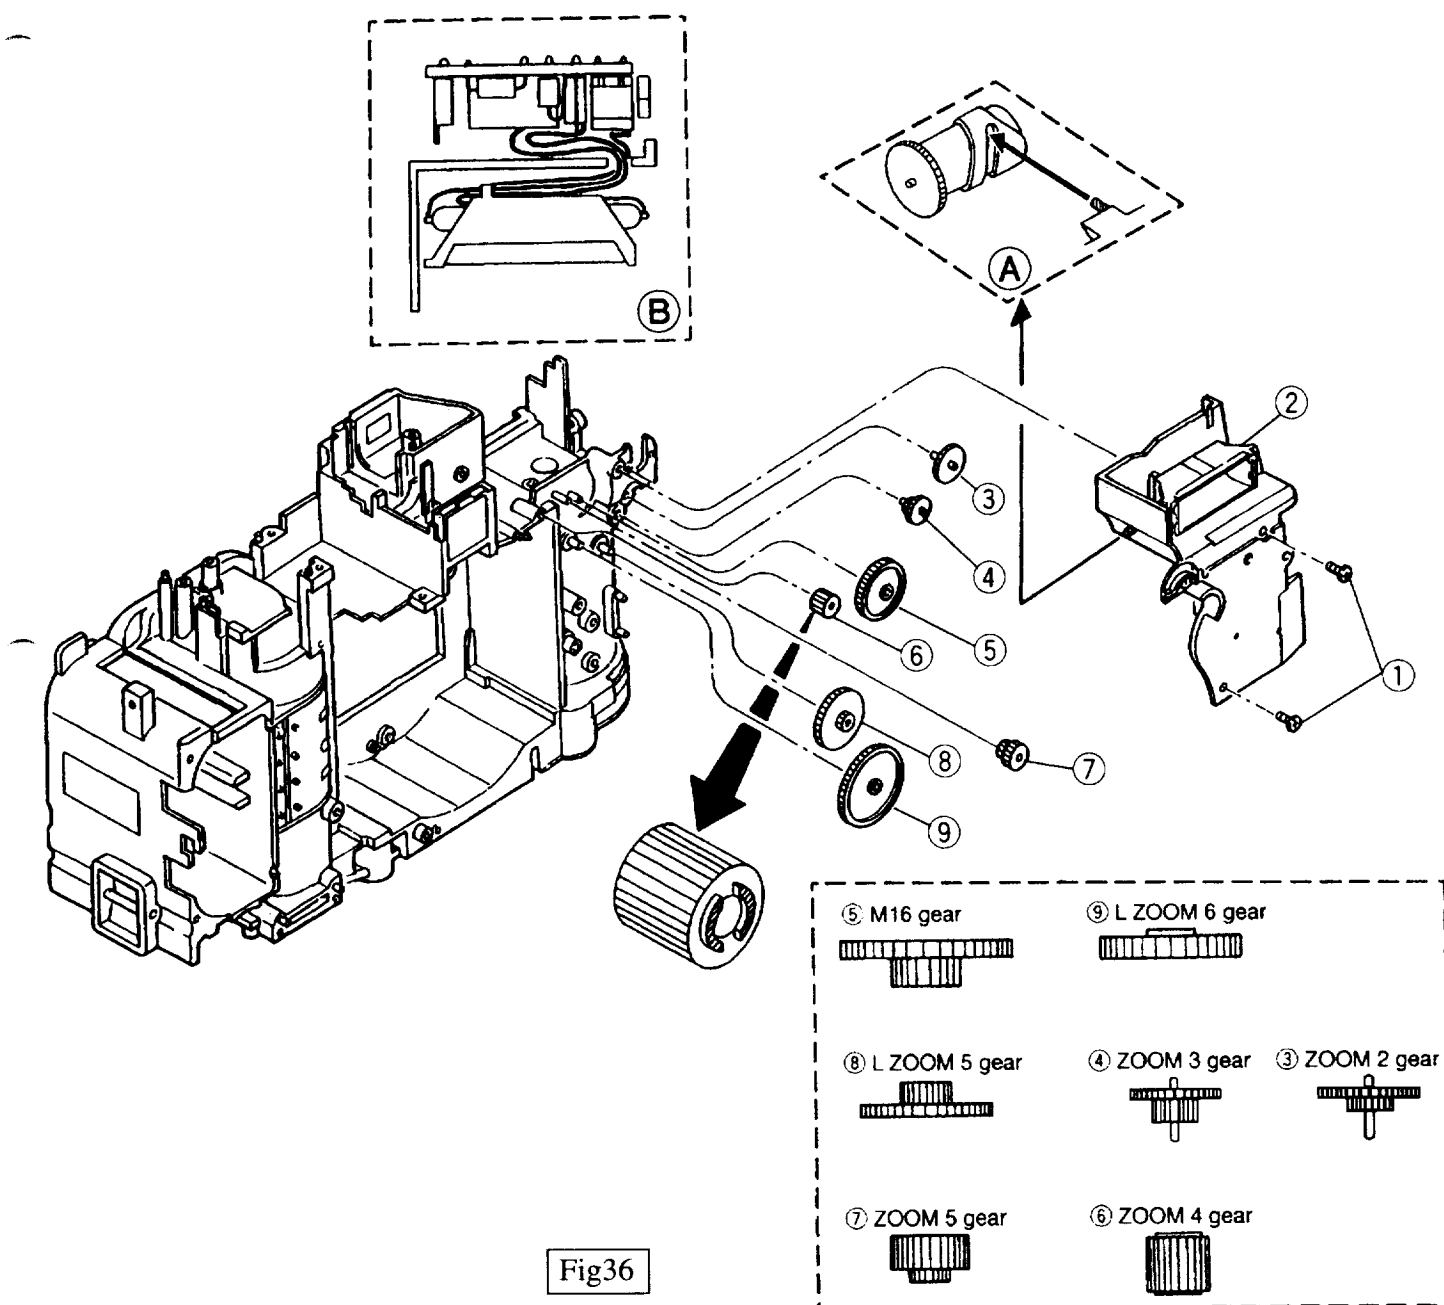

Fig36
(12) Set the L ZOOM GEAR 5 (⑧), the ZOOM 3 GEAR (④) and the ZOOM 2 GEAR (③). (Fig. 36)
(14) Set the ZOOM 4 GEAR (⑥), the L ZOOM 6 GEAR (⑨) and the M16 GEAR (⑤). (Fig. 36)
(15) Set the ZOOM GEAR FRAME (②) then tighten two SCREWS (①). (Fig. 36)
[NOTE] · The FLASH REFLECTING part must be interlocked with the F ZOOM CAM. (Fig. 36, (A))
(16) Arrange the FLASH LEAD WIRES. (Fig. 36, (B))